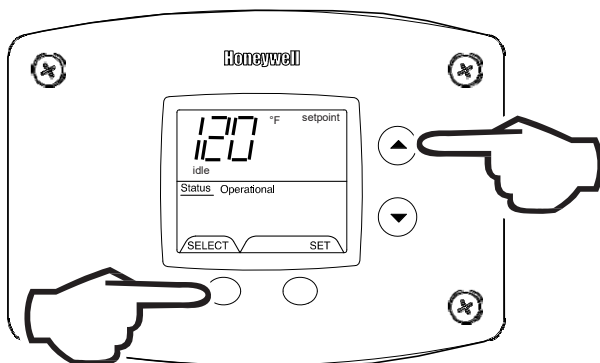

Fig. 80
7. 10 seconds after the last button press, the Water Heater Display will revert back to the current error code display. To exit Service Mode, either wait 30 seconds or press Temperature Up button and Select Button for 3 seconds (Fig. 80).